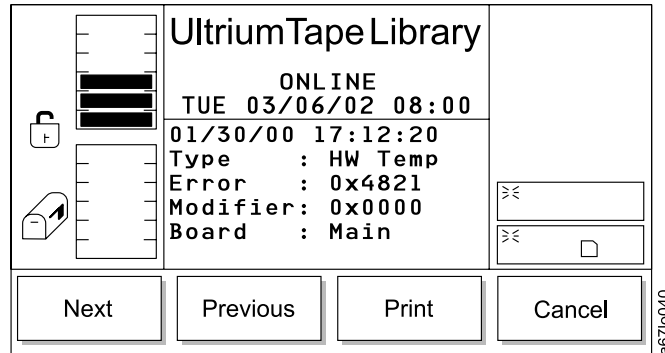

Figure 99. Error Log Dialog
- If **Error Log** is selected, the Error Log Dialog displays (see Figure 99 on page 101).
- If **Cancel** is selected, the Error Log Dialog displays (see Figure 99).